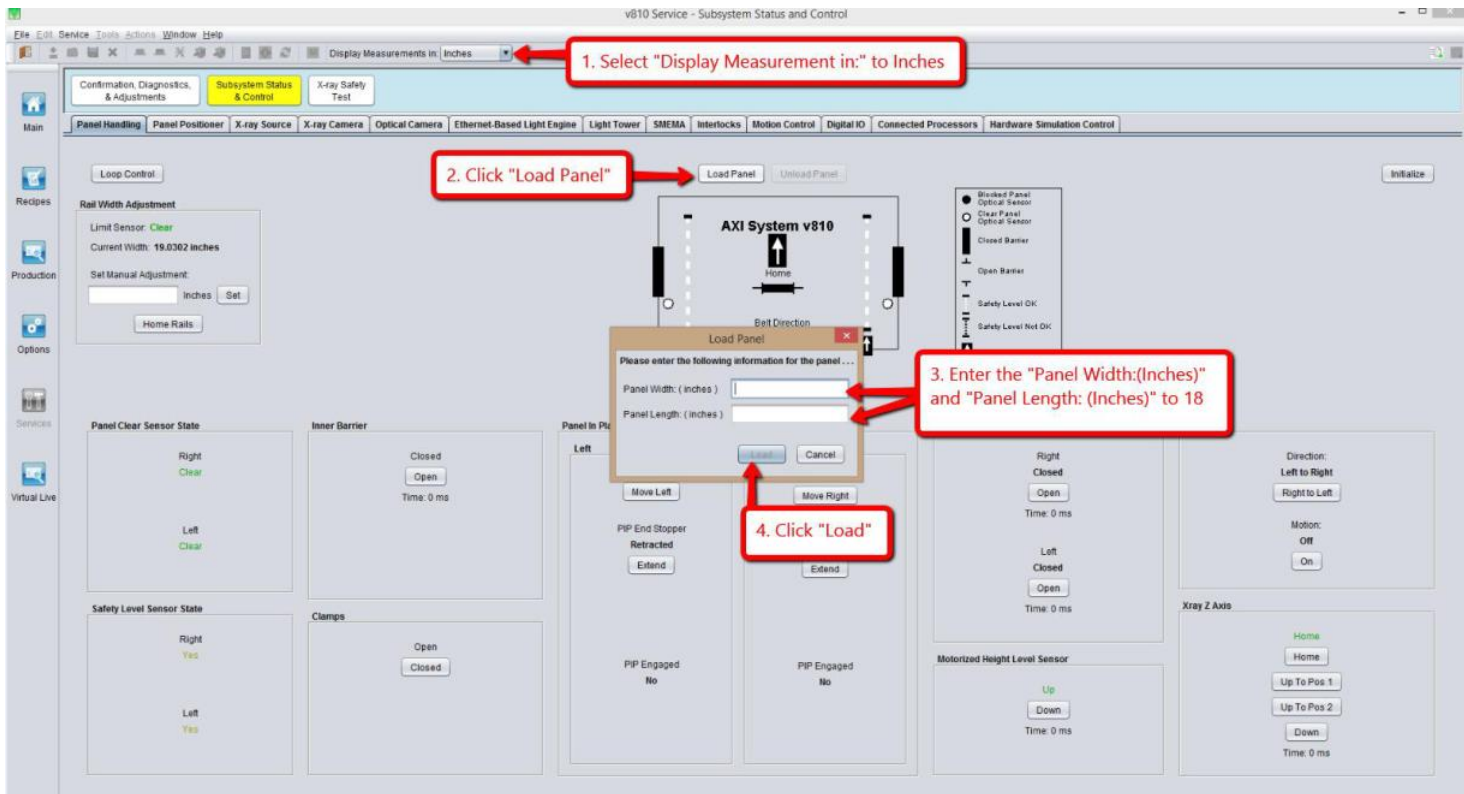

Figure 15 Panel Handling (Load Jig)
10. Set the parameters as shown in the Figure 15 and click Load Panel.